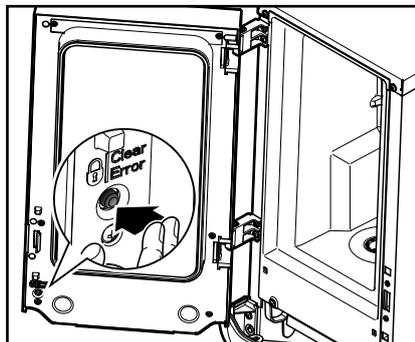

Fig. 22
2. Press the LOCK/Clear-Error switch to block the drink delivery (fig. 22).